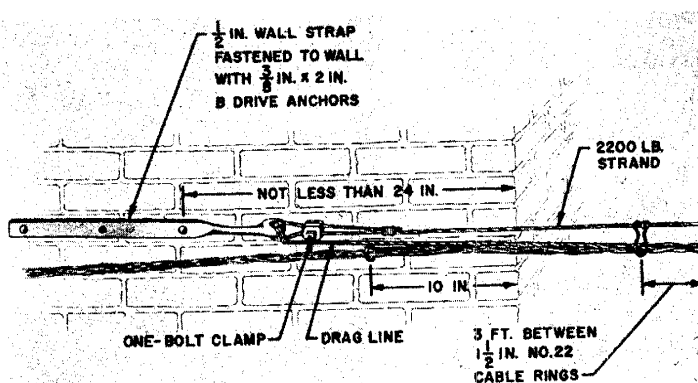

Fig. 13 – Span in Line with Wall
9.06 Where span exceeds lengths specified in 9.03 or 9.04, bridle wire may be run in $1\frac{1}{2}$ -inch No. 22 cable rings attached to 2200-pound strand. Space cable rings 3 feet apart. Place a drag line in the rings of the crossing span at the time they are attached. The drag line should always be replaced after it has been used for pulling wires across the aerial block wire span. This may be done at the time of pulling in additional wires by attaching a new drag line to the existing line and pulling the new line into the rings at the same time the wire is pulled in. Tie the drag line at the end of the strand. (See Fig. 13, 14, and 15.)